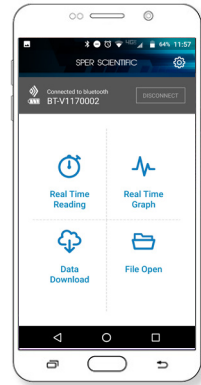

Figure 2
- Once the meter is paired, you will see real-time readings, graphs, and download data from the meter by simply clicking the icons for each of these features. See *Figure 2*.